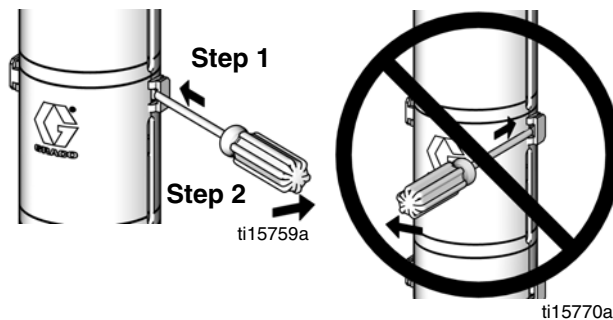

FIG. 3. Shield Disassembly
3. **Models with Sealed 4-Ball Lowers:** Remove the 2-piece shield (9) by inserting a screwdriver straight into the slot, and using it as a lever to release the tab. Repeat for all tabs. **Do not** use the screwdriver to pry the shields apart. See FIG. 3.
4. Loosen the coupling nut (10) and remove the collars (11). Remove the coupling nut (10) from the piston rod (R). Unscrew the lock nuts (5) from the tie rods (4). Separate the motor (1) and lower (2).